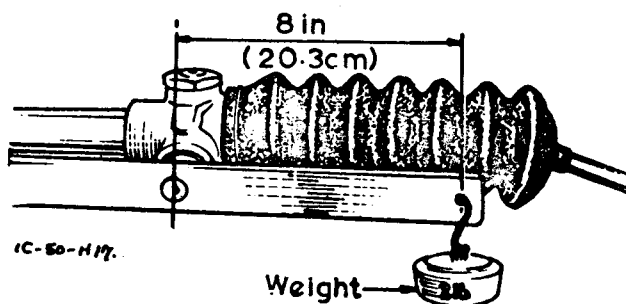

Fig. 15. ROTATING THE PINION
- d. When the nut is correctly adjusted, a force of 2 lb. (.91 kg.) is required to rotate the pinion at a radius of 8 in. (20.3 cm.) (see Fig.15). Check and re-adjust the unit, if necessary, by adding or subtracting shims from beneath the cap nut.